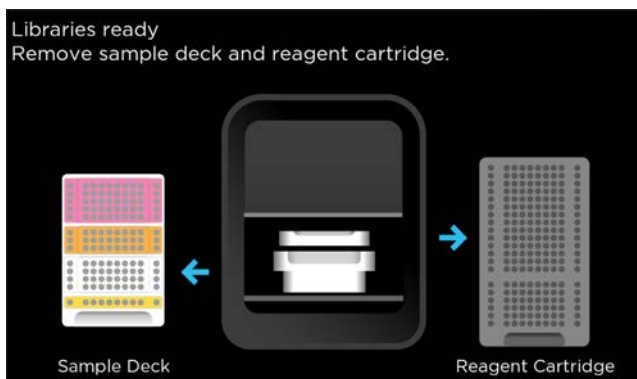

Figure 16. Libraries ready screen.
4. Remove sample deck and reagent cartridge (Figure 16), placing the sample deck into the sample deck stand.